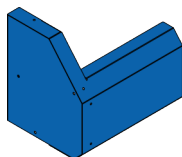

Fig. 12: Drive cover (271-01)
- Drive cover (271-01) (Fig. 12)